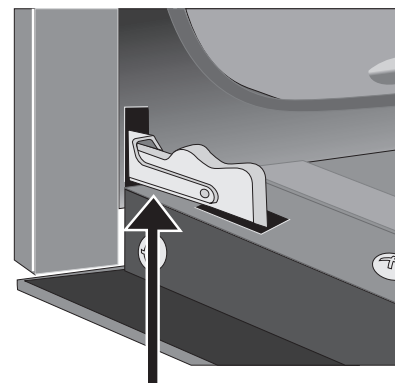
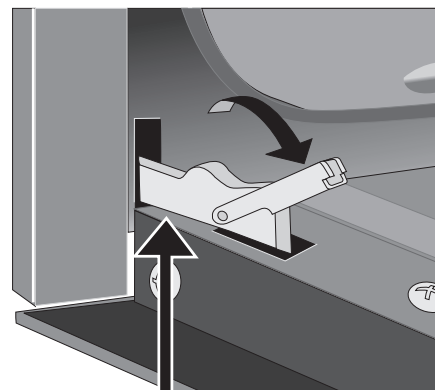

Figure 24: Door hinge locked
Figure 25: Unlocking door hinge
2. Pull up the lock located on each hinge support toward front of the oven until the lock stops. You may have to apply a little upward pressure on the lock to pull it up (Figure 24 and Figure 25).
4. Push the door hinge locks up toward and into the oven frame on both left and right oven door hinges to the locked position (Figure 24 and Figure 25).